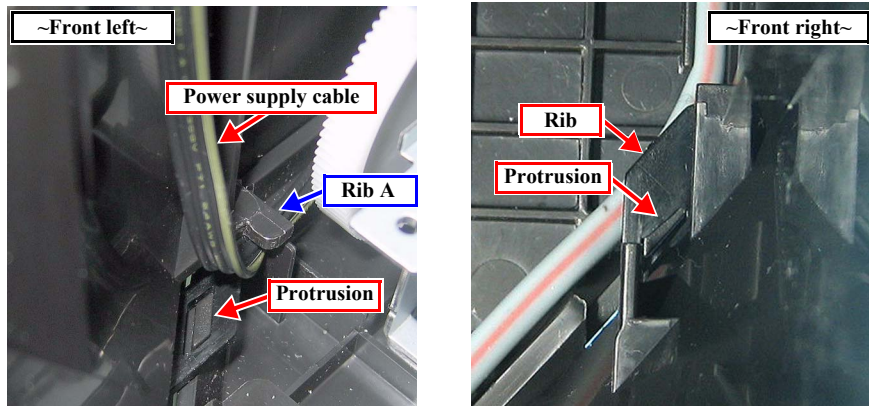

Figure 4-30. Checking the installation of the Middle Housing
- The right and left openings at the front bottom of the Middle Housing are properly engaged with the protrusions of the Bottom Housing. (Fig. 4-30)
- The power supply harnesses (black and yellow) are fastened properly. (Fig. 4-30)